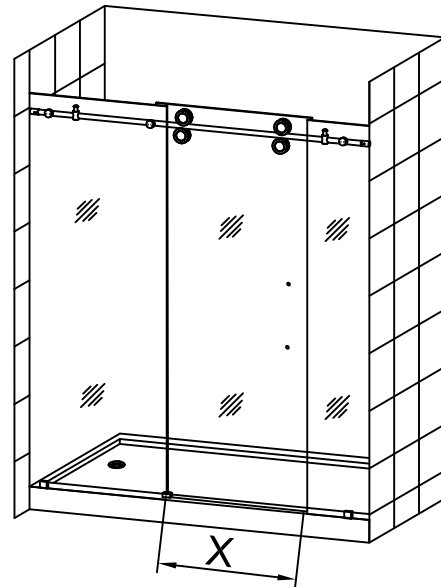

Fig.28
Measure the distance between the Small Fixed glass (19) and the Large Fixed Glass (3). See Fig.28 for details.